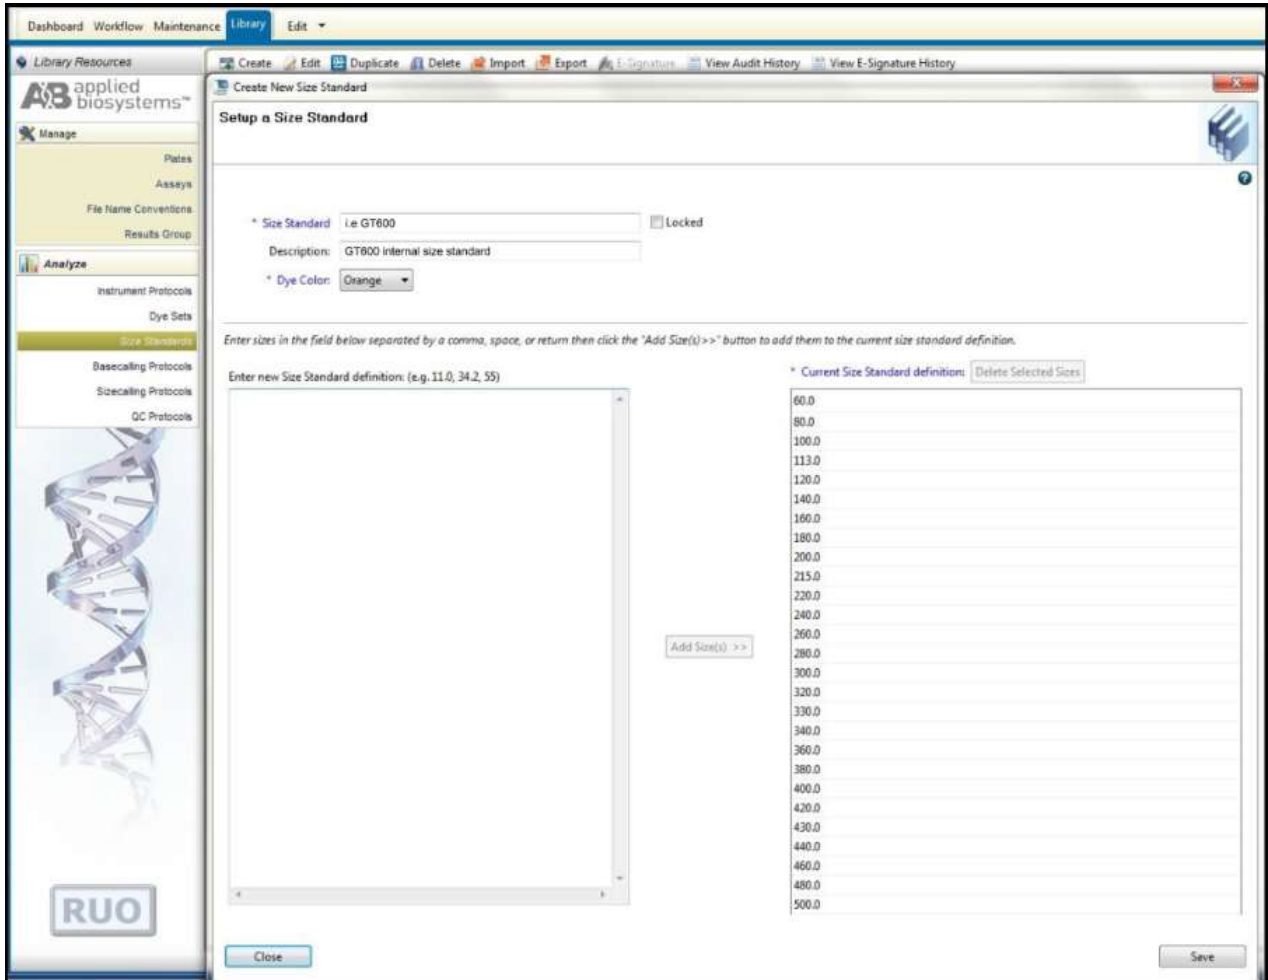

Figure 6. Screenshot for the “Create New Size Standard” window on Applied Biosystems 3500 Data Collection software
- c) Select “Create” (Figure 6)
Users can select settings as shown in the Figure 6 or alternatively may define these settings based on internal validation condition for AneuSure® Max Plus v2 on the Applied Biosystems® 3500/3500xL Genetic Analyzer.